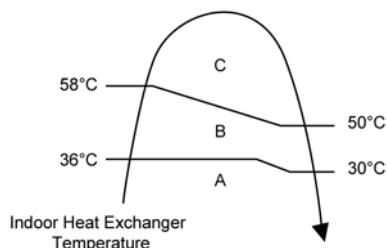

Figure 1
1. Automatic vertical airflow direction can be set using remote control; the vane swings up and down within the angles as stated above. For heating mode operation, the angle of the vane depends on the indoor heat exchanger temperature as Figure 1 below. It does not swing during fan motor stop. When the air conditioner is stopped using remote control, the vane will shift to close position.